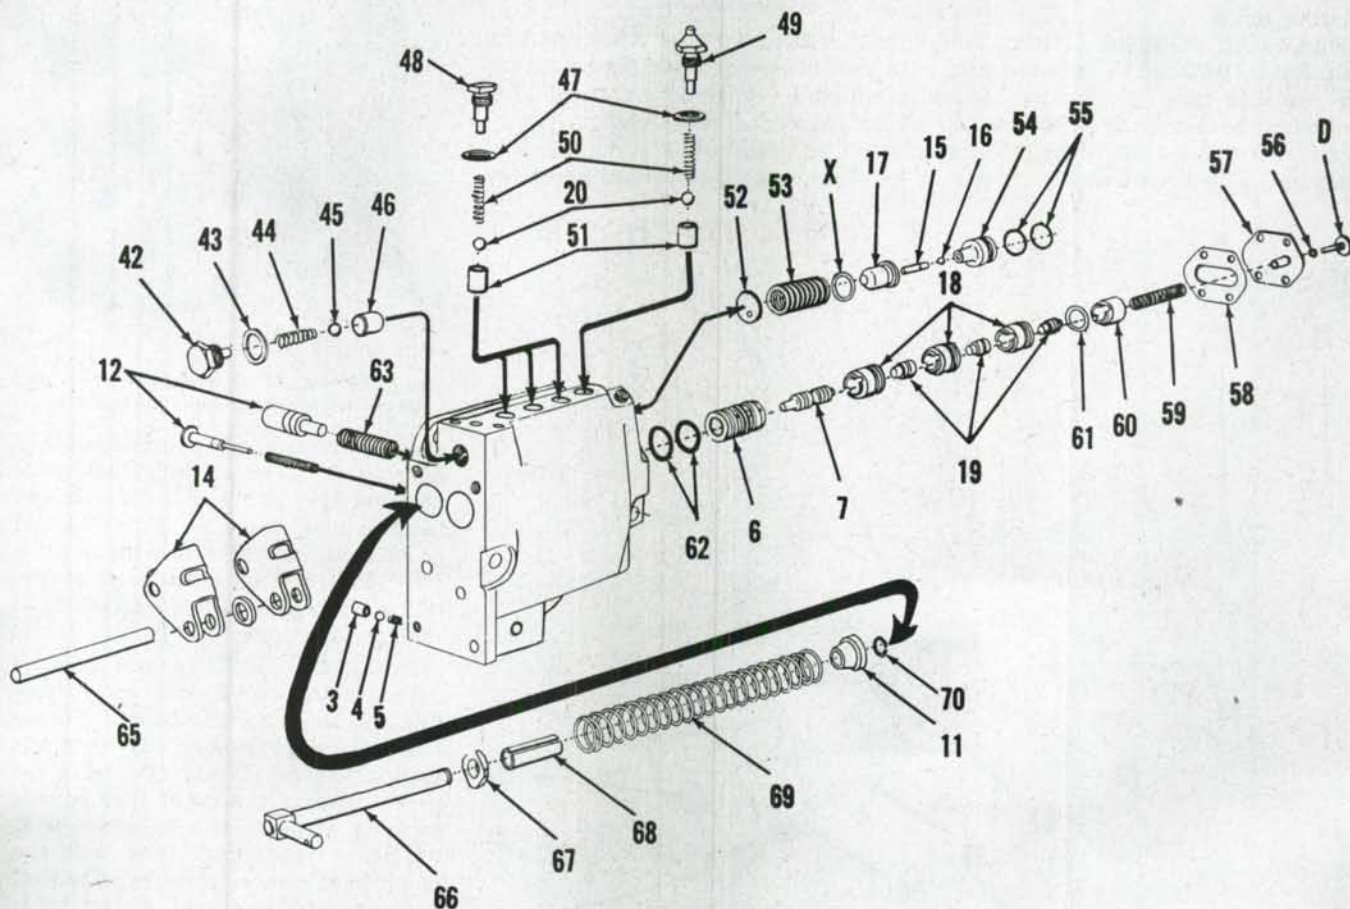

Fig. AC166—Models CA, WD and WD45 hydraulic pump.
UNLOADING VALVE. To remove this valve from the pump body remove the screws from the cover (57—Fig. AC166) and remove cover. Carefully extract valve (54) from body with pliers. This valve is serviced as a selective fit assembly and if renewal is necessary it should be replaced as a unit. As an emergency measure a leaking valve can often be corrected by using a suitable press to push a new ball (16) against the seat at 5000 pounds pressure. If seat orifice measures less than 3/32 diameter after this procedure, it should be reamed to that size. End of plunger (15) which has the drilled hole should be assembled towards the ball. Valve should unload when pump pressure is 3400-3700 pounds. If it is positively known that valve does not leak, it can be adjusted to unload at desired 3400-3700 lbs. by varying shims (X).
CONTROL VALVES. After removing the pump, remove control housing plate (57) and cover containing the volume adjusting screw (D). Remove valves (7 & 19) and sleeves (6 & 18) from rear of pump. Keep valves and sleeves in matched pairs. The valves for the ram and small (5/16) plunger form one unit which is sealed to the body by two "O" rings (62). Reinstall the valve sleeves and spacer (60) with notched ends of sleeves facing rearward. Spring washer (61) is installed between spacer and sleeve as shown in Fig. AC166. Be sure to use new "O" ring seals when reassembling the unit.